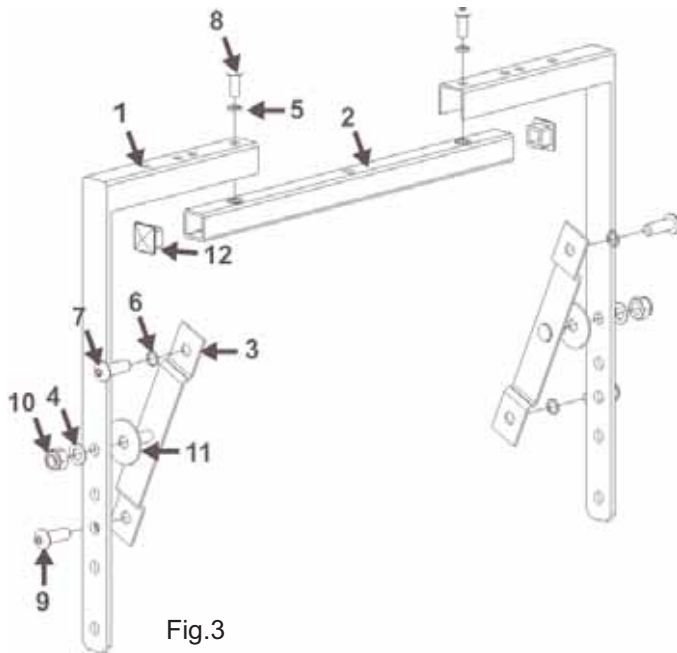

Fig.3
The Tannoy **VNET**™ loudspeaker is attached to the bracket using the M10 bolts and washers supplied in the accessory pack. Only the screws, fasteners, shake proof and plain washers specified on figure 3. should be used to assemble the VMY bracket
Pivot studs (Figure 3.) (Supplied with the VMY) are attached to the cabinet using the M10 bolts supplied. These bolts locate on the M10 inserts in the cabinet. The VMY adjustable yoke bracket then connects to the centre of these mounting plates (using the M10 screws supplied). These bracket pick up points which are in line with the bracket s axis of rotation, are also positioned on the centre of gravity of the **VNET**™ in both orientations to allow easy adjustment for optimum coverage.
Use the table of parts along with the assembly drawing (Figure 3.) to assemble the VMY. Figure 4 shows the VMY assembled.
**Only the screws, fasteners, shakeproof and plain washers specified on figure 3. should be used to assemble the VMB bracket**